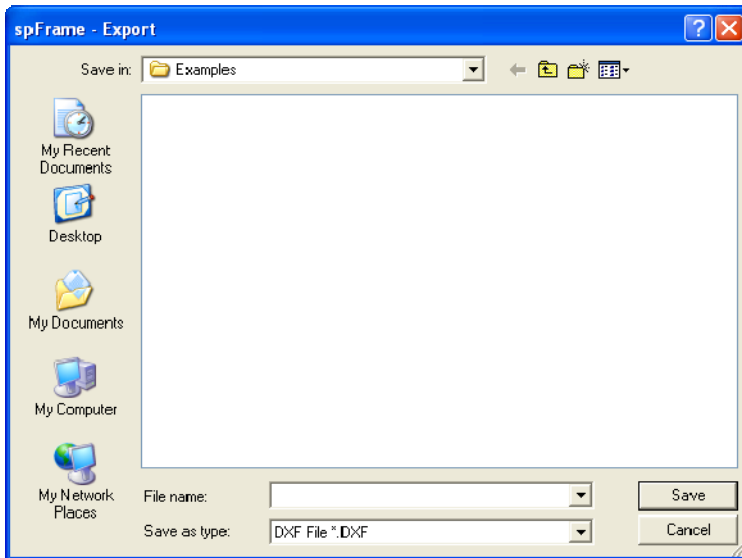

Figure 3-5 Export dialog box
- From the File menu, select Export. The dialog box of Figure 3-5 appears.